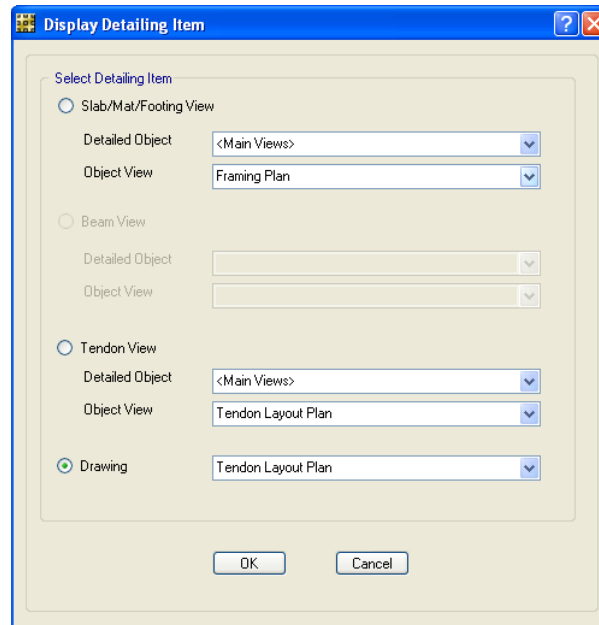

Figure 94 Display Detailing Item form
- L. Click the **Detailing menu > Show Detailing** command to access the Display Detailing Item form shown in Figure 94.